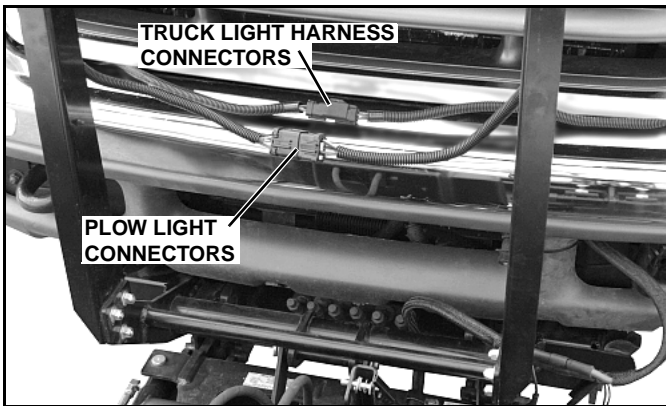

Figure 1-24
3. To prevent corrosion on the contacts, plug the male and female connectors on the plow together (See Figure 1-24).
4. To make the truck lights operable, plug the male and female connectors on the truck light harness together (See Figure 1-24).